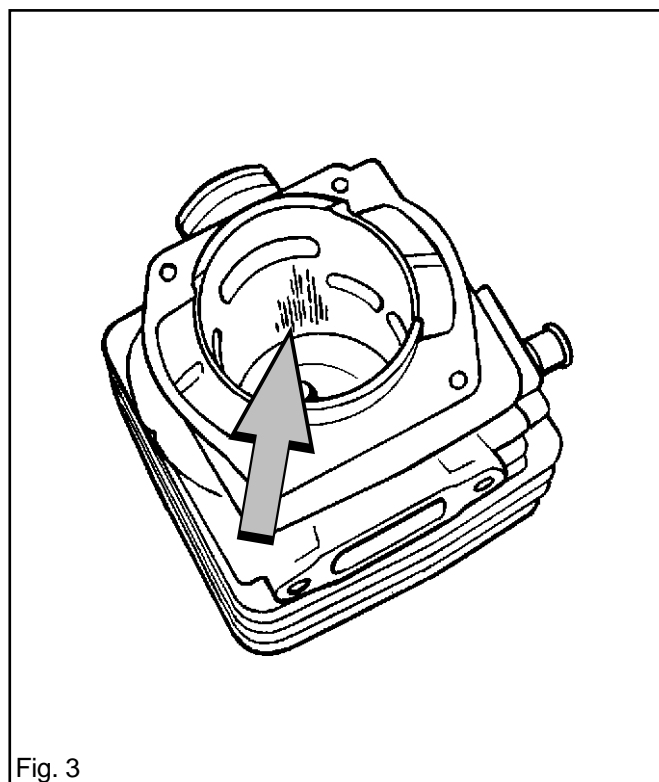

Fig. 3
1. The cylinders surface coating is not worn out, especially the upper part of the cylinder. See fig. 3.